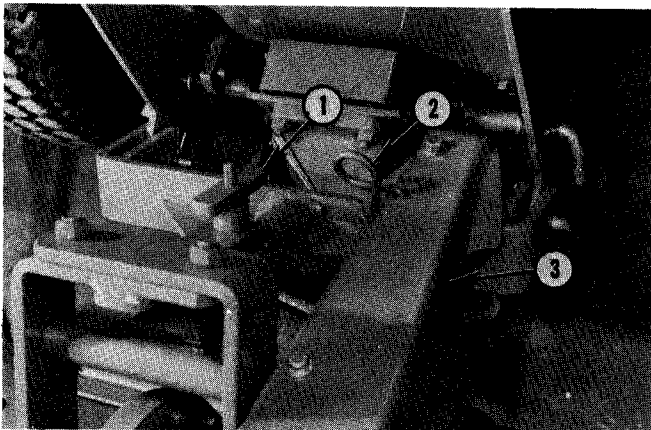

Fig. 8 - DRIVE BELT ADJUSTER
*Note: If drive belt pulley is difficult to install, unscrew belt tension adjuster, Fig. 8.*
7. Secure belt cover in place, as shown in Fig. 8.